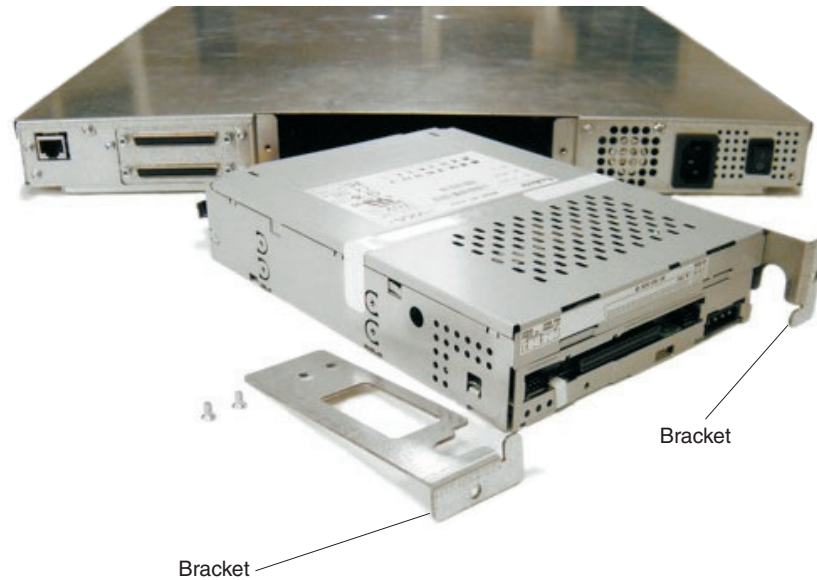

Figure 23. Removing the tape drive mounting brackets
- 7. Using a #1 Phillips screwdriver, remove the two screws from each of the brackets that are attached to the tape drive (see Figure 23 on page 49). Save the brackets and screws. You will attach the brackets to the new tape drive.